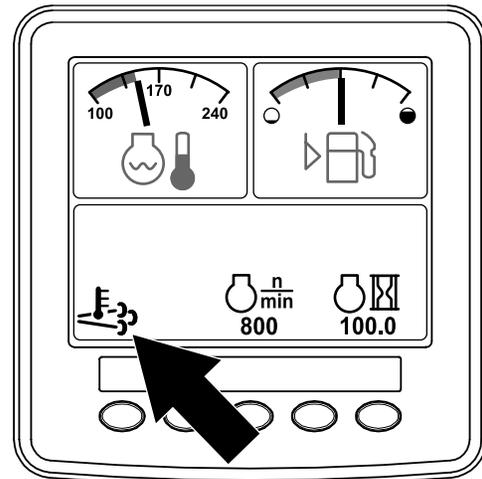

Figure 10
- The high exhaust-temperature icon  displays in the InfoCenter (Figure 10).